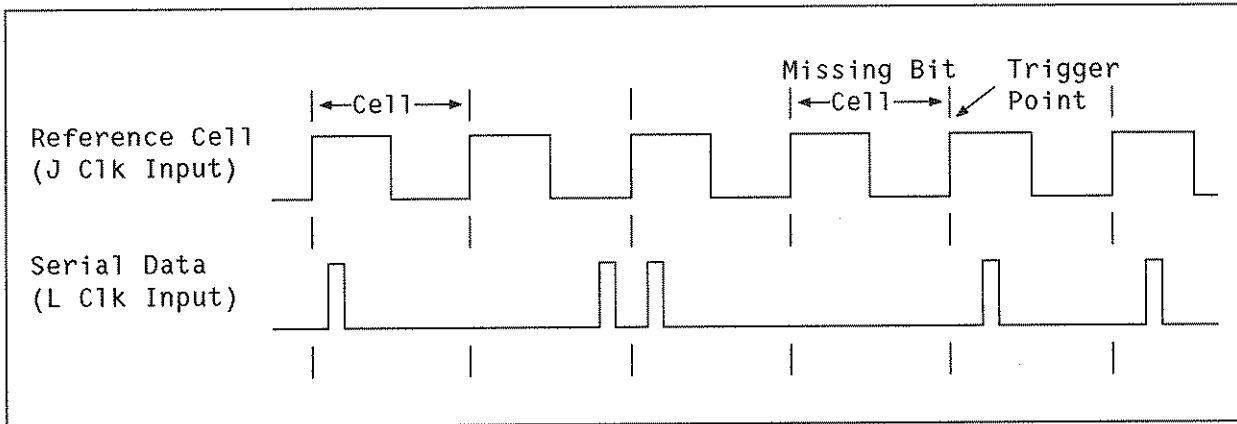

Figure 5-13. Missing Bit Timing Diagram
A missing bit (signal dropout) is the absence of a signal transition within a given time window. This window is referred to as the reference cell. An extra bit (glitch) is the occurrence of two or more transitions within a time window. Figures 5-13 and 5-14 illustrate two examples of these cases.
For the HP54200D to detect a fault, a reference signal and serial data (signal under test) must be applied to the "J" and "L" clock inputs on the oscilloscope state pods. The pod inputs are logic analyzer type triggering probes which are separate from the analog inputs. In the examples shown in figure 5-13 and 5-14, the reference input is a simple repetitive clock with the serial data input being a return-to-zero (RZ) signal. Depending upon the application, various combinations of edge selections can be made defining reference cell boundaries and data transitions. For example, if in the examples of figures 5-13 and 5-14, the serial data was non-return-to-zero (i.e., one transition per reference cell), then the serial data would be specified as both rising and falling edges.